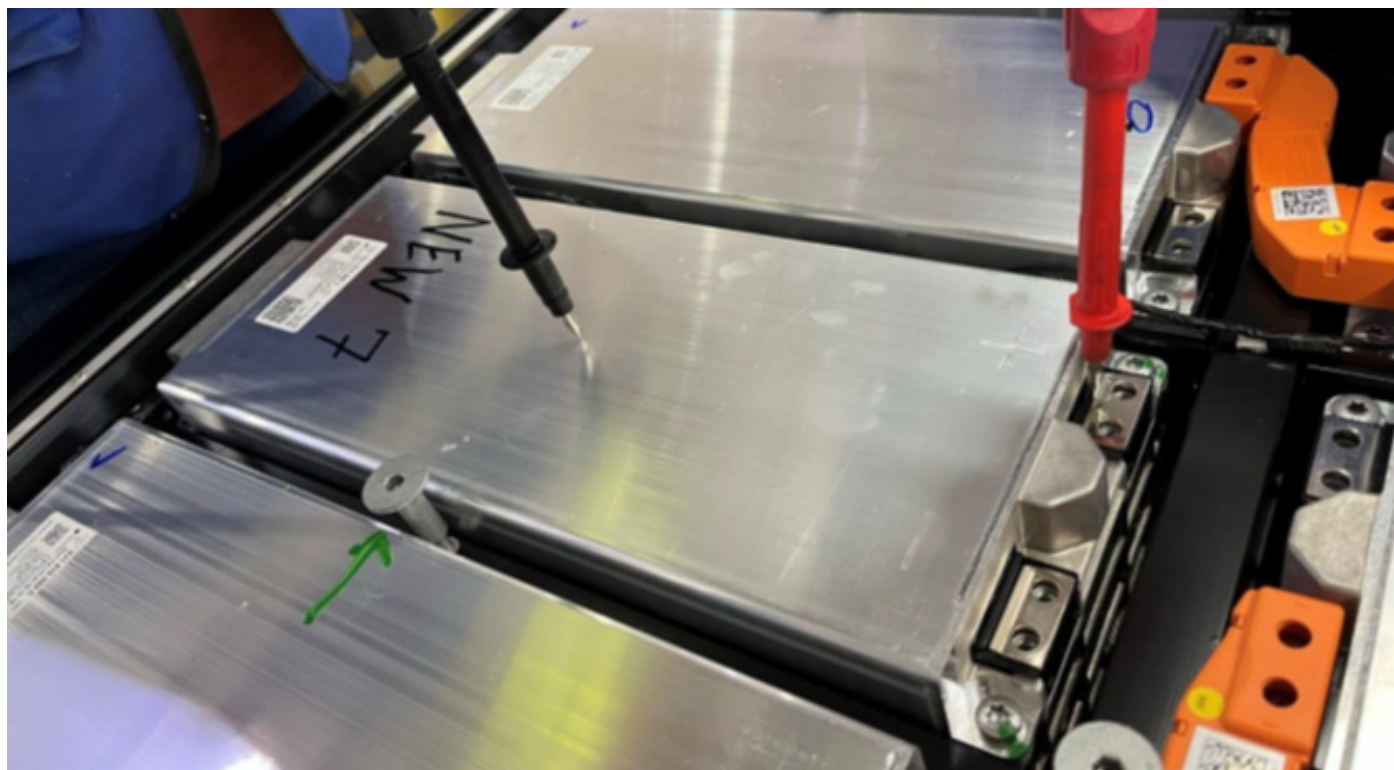

Figure 3 - IR Test at Positive Terminal
- When IR testing a module on the positive terminal: Contact the positive terminal with the red test probe as shown in Figure 3.
Module IR Testing Procedure: Positive Terminal (Figure 3)